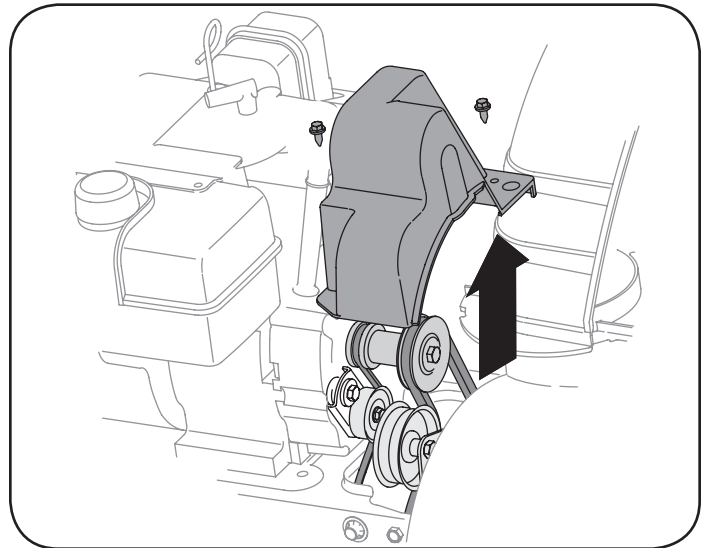

Figure 20
2. Remove the plastic belt cover on the front of the engine by removing the two self-tapping screws. See Figure 20.
2. Remove the plastic belt cover on the front of the engine by removing the two self-tapping screws. See Figure 20 on previous page.